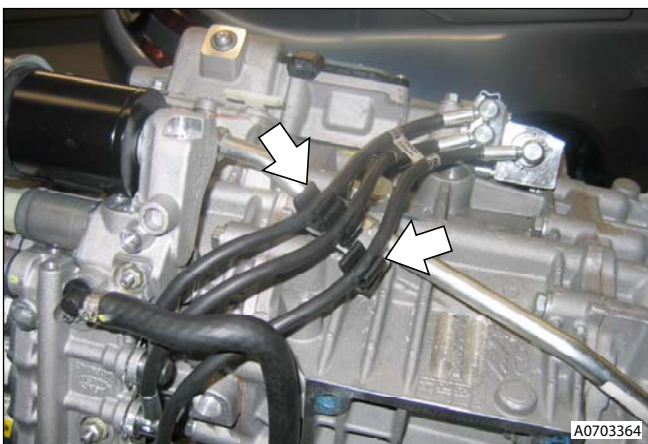

Figure 8
30. Release hoses from support clips (x3) (see Figure 8).